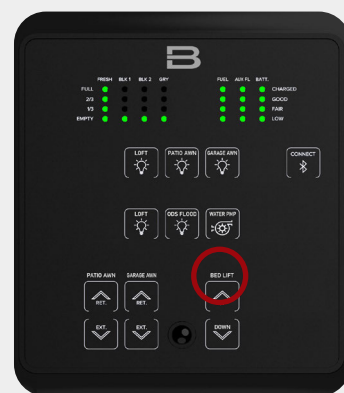

FIG.7A
2. Remove the protective label (Fig. 7A).